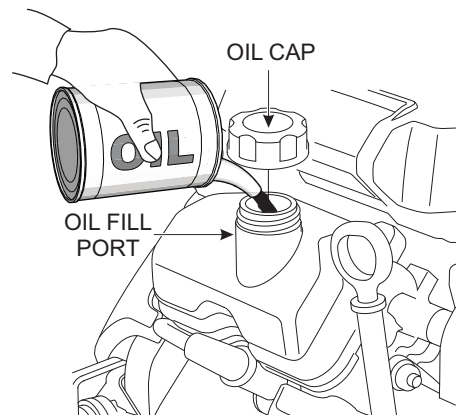

Figure 11. Engine Oil Filler Port
4. If the oil level is low, remove the oil filler cap (Figure 11) and fill to a safe operating level (max) as indicated by the dipstick. Fill with recommended type oil as listed in Table 6. Maximum oil capacity is 2.0 quarts (1.9 liters).